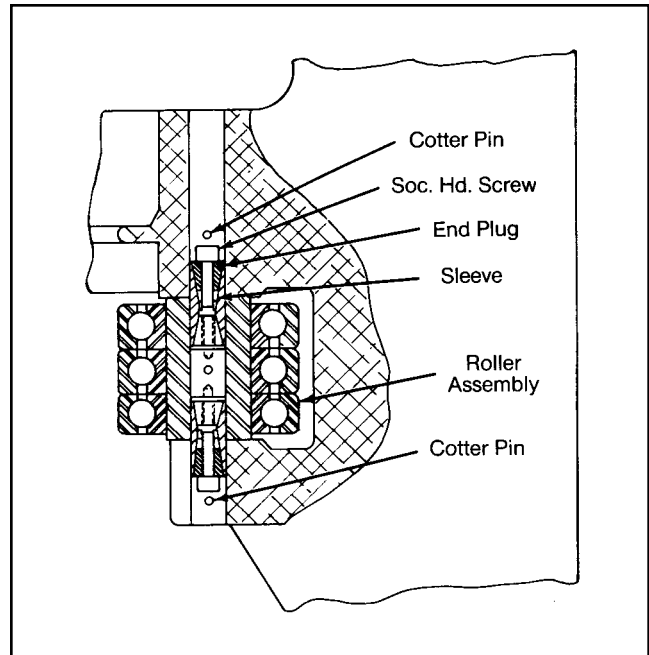

Figure 47
- Figure 47 shows a cutaway view of the M16 assembly.